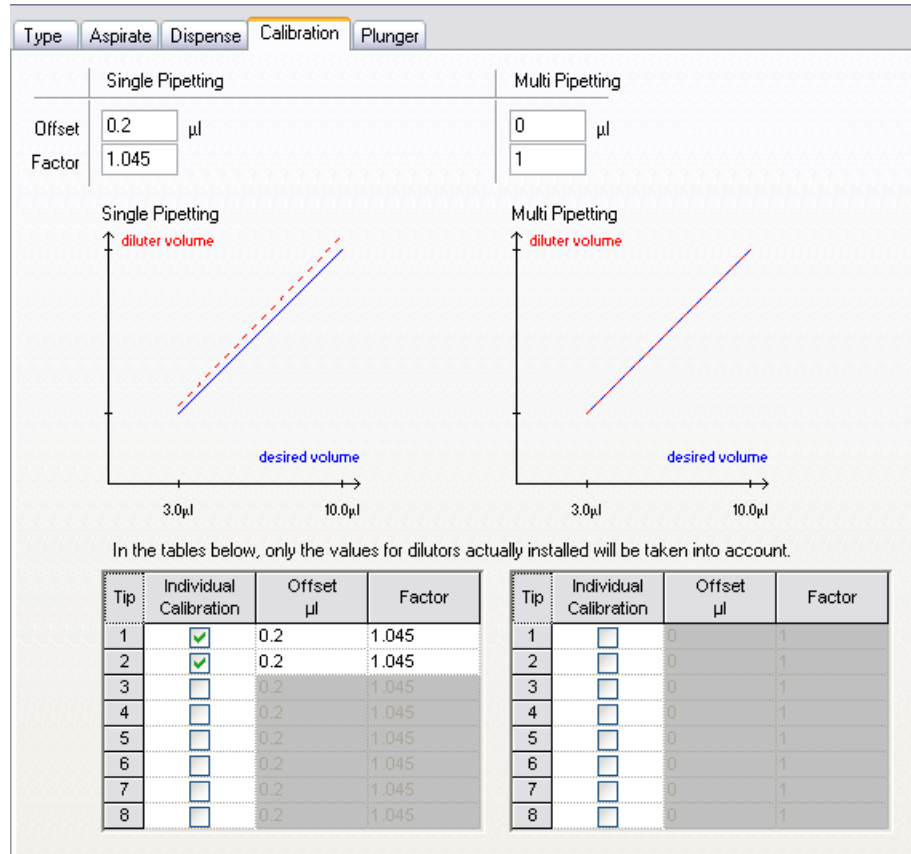

Fig. 10-10 Calibration parameters
In order to reach the best precision values over all pipetting channels it could be necessary to adjust the **Offset** (see Fig. 10-10, 10-23) of each individual pipetting channel.
- 4 Enter the *new calibration offset* in the **Offset** field of the appropriate channel at the bottom of the **Calibration page** (refer to Fig. 10-10, 10-23).
- 8 Enter the final calibration offset in the **Offset** field of the appropriate channel at the bottom of the **Calibration page** (refer to Fig. 10-10, 10-23).